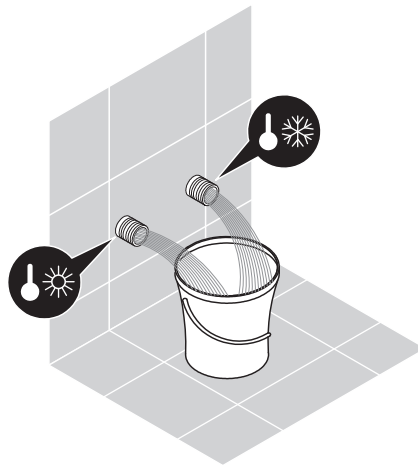

Fig.2
- Before installing the showerpanel, it is advisable to clean and run water in the pipes to avoid subsequent damage caused by waste accumulated in the pipes (Fig.2);